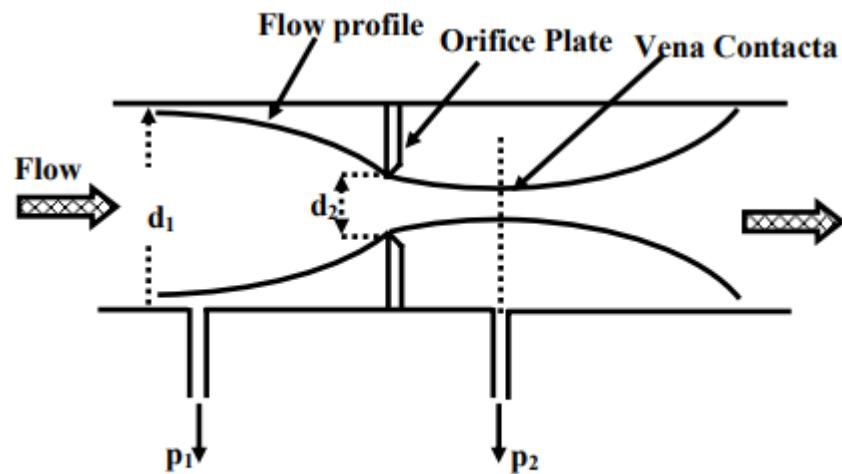

Fig. 2 Orifice type flowmeter
- Most common among them is the orifice type flowmeter, where an orifice plate is placed in the pipe line, as shown in fig.2. If d_1 and d_2 are the diameters of the pipe line and the orifice opening, then the flow rate can be obtained using eqn. (3) by measuring the pressure difference (p_1-p_2).